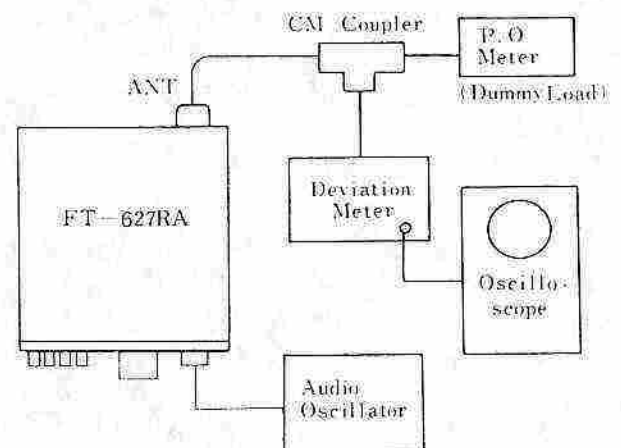

Figure 8
(1) RF Power Amplifier
(2) PO Meter
(3) AFP (Automatic Final Protection) Circuit
(4) Modulation & Adjustments
- a) Connect the YP-150 dummy load/wattmeter to the antenna jack. Connect the output of an audio oscillator between pin 6 (mic in) and pin 5 (ground). Connect a deviation meter as shown in Fig. 8.
(5) Tone Burst